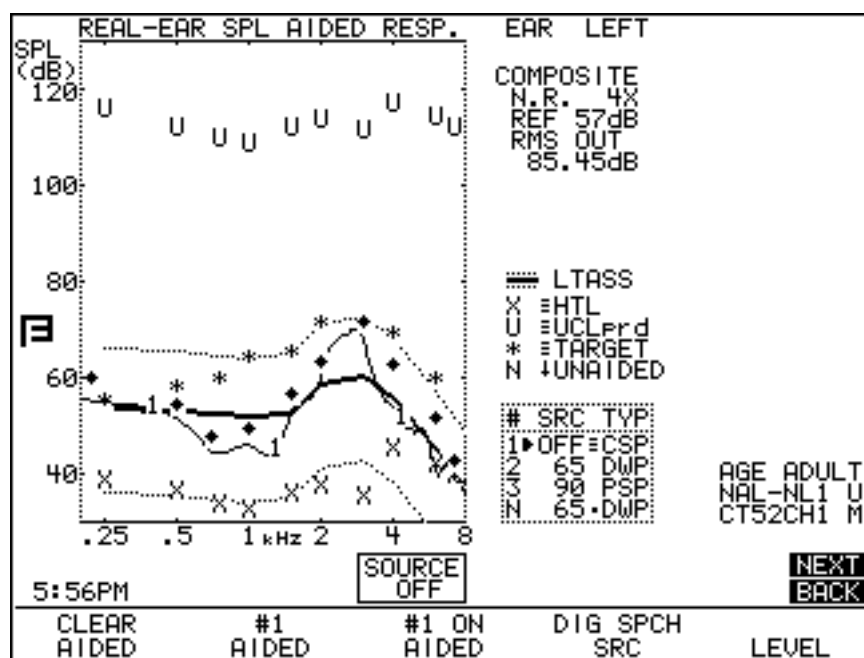

Figure 5.6.1—Visible Speech Testing
3. Examine the measurement graph. The screen will display the hearing aid’s response to the live voice or pre-recorded signal and how it relates to the displayed speech banana. If you chose the BARS setting in step 8, you will also see a succession of bars on the screen, indicating the maximum peaks of the speech. If you chose the AVERAGE setting, you will see a second curve composed of small diamonds indicating the long term average response over the time of the test. See Figure 5.6.1.